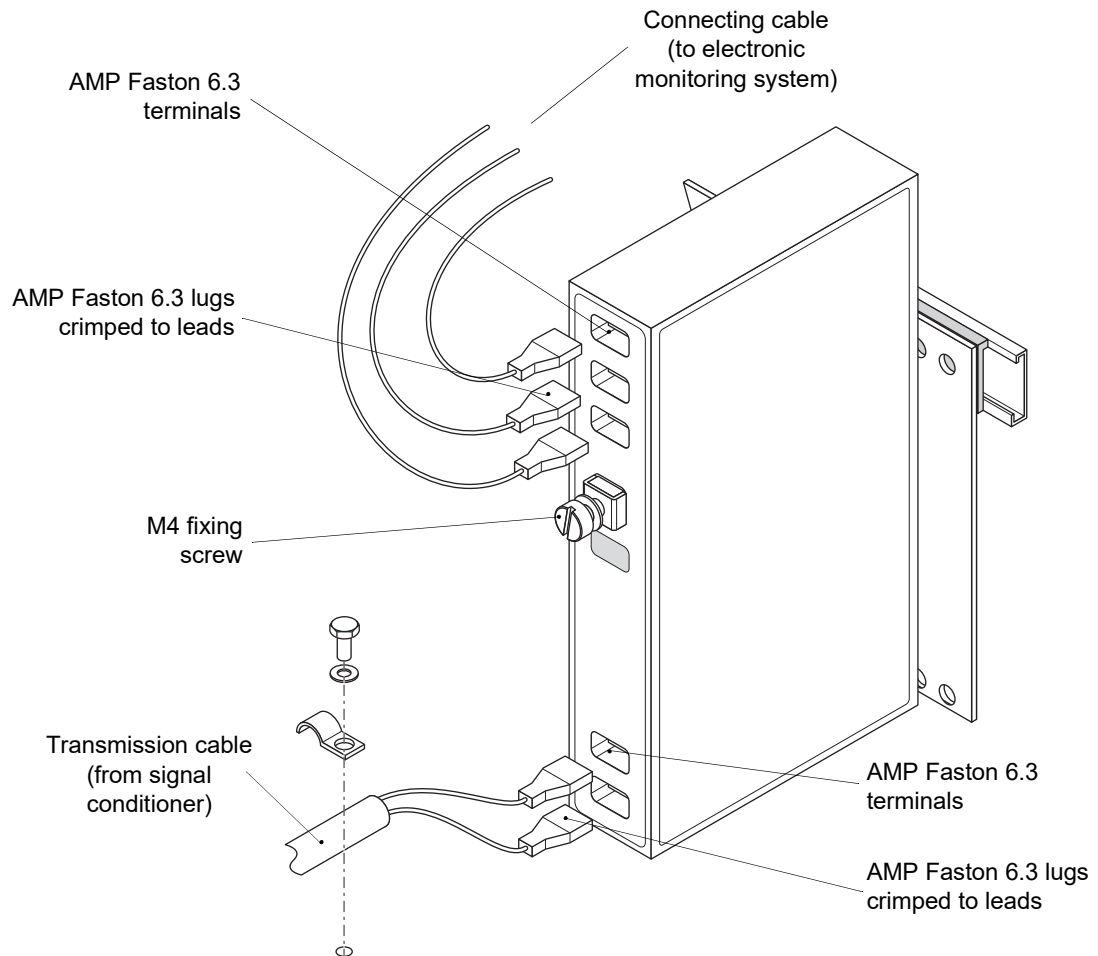
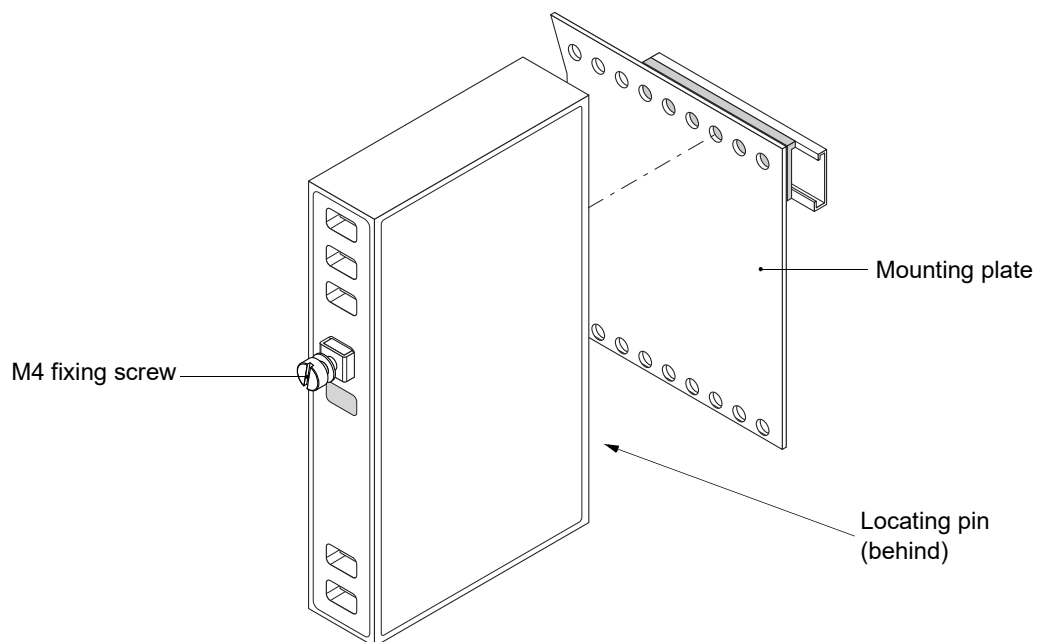

Figure 5-4: GSI122 or GSI130 galvanic separation unit
Figure 5-5: The mounting plate used by GSI122 and GSI130 galvanic separation units
A GSI122 or GSI130 galvanic separation unit is generally mounted in an industrial housing, rack or cabinet. These units are normally installed on a dedicated mounting plate using a locating pin and a fixing screw (see Figure 5-5). The transmission cable from the “sensor-side” circuitry and the connecting cable to the “monitor-side” circuitry are connected to a GSI122 or GSI130 using AMP Faston 6.3 lugs (see Figure 5-4) that are crimped to the wires.
- 2- Identify each wire for both the transmission cable from the “sensor-side” and the connecting cable to the “monitor-side” that are connected to the GSI122 or GSI130. See Figure 5-4 and use Table 5-2 to record the number and/or colour for each wire.
- 5- Undo the M4 fixing screw until the GSI122 or GSI130 has been uninstalled and disassemble the mounting plate from the DIN rail (see Figure 5-5).